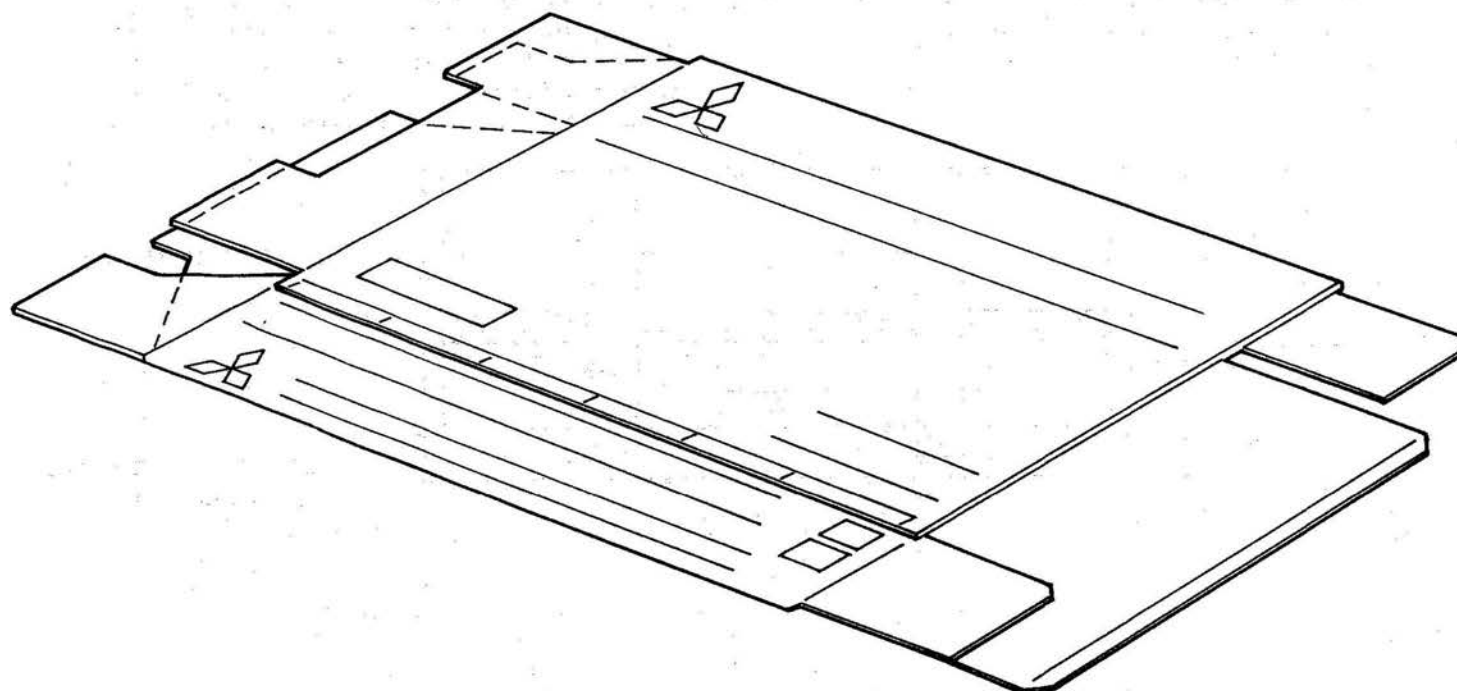

Figure 3
- ① Those packaging materials that can be reused should be saved for possible reuse in the future.
- ② Packaging box can be opened and folded flat for storage, as shown in figure 3.